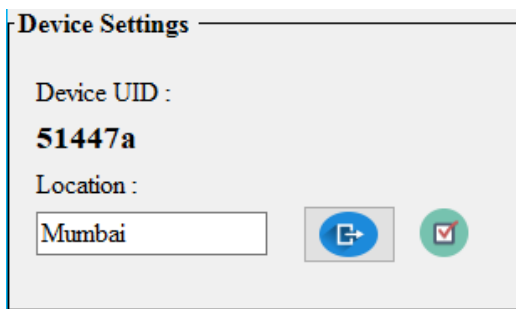
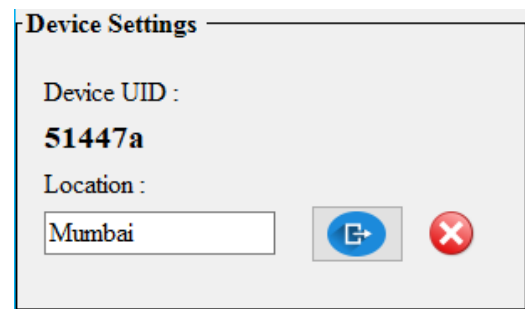

Figure 29
Figure 30
- ④ Read alarm data
- ⑤ Cloud settings
- ⑥ Software settings
- A. CHANNEL ADDITION:** Here enter the Device Name, Device Id, select the Modbus Function, enter the Address Register, select Decimal Point and enter Unit. Then click on  button to add the device parameter, which is to be synchronised. Maximum of 48 Slaves can be set. Refer “①” in above figure.
- B. CHANNEL DELETE:** Deletes the selected channel. Refer “②” in above figure.
- C. CHANNEL SYNCHRONIZATION:** Clicking on  button will synchronise all data of table with device. One by one, the data will be transmitted to the device. When the data is transferred successfully, **SYNC** status will be displayed on window.  Button will be active only when the data is available to be sent. Refer “③” in above figure.
- D. DEVICE ID:** If this option is checked right, only Device Id will be incremented automatically. Refer “④” in above figure.
- E. ADDRESS REGISTER:** This option is also use to increment only address register automatically without changing any other parameters. Refer “⑤” in above figure.
- Once the data is filled click  button. This will add the data to the table as shown in Figure 29.
- If location is set correctly then Right check will appear on window or if setting is not done properly, then Wrong check will appear on window as shown in Figure 29 & Figure 30 respectively.